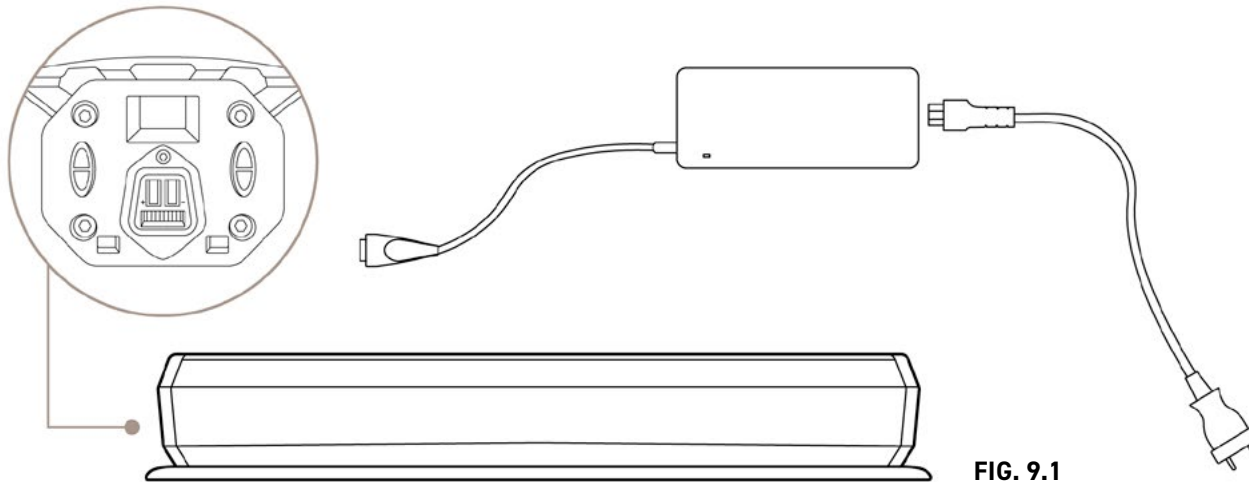

FIG. 9.1
3. Connect the supplied battery charger to the socket with the appropriate plug (Figure 9.1)